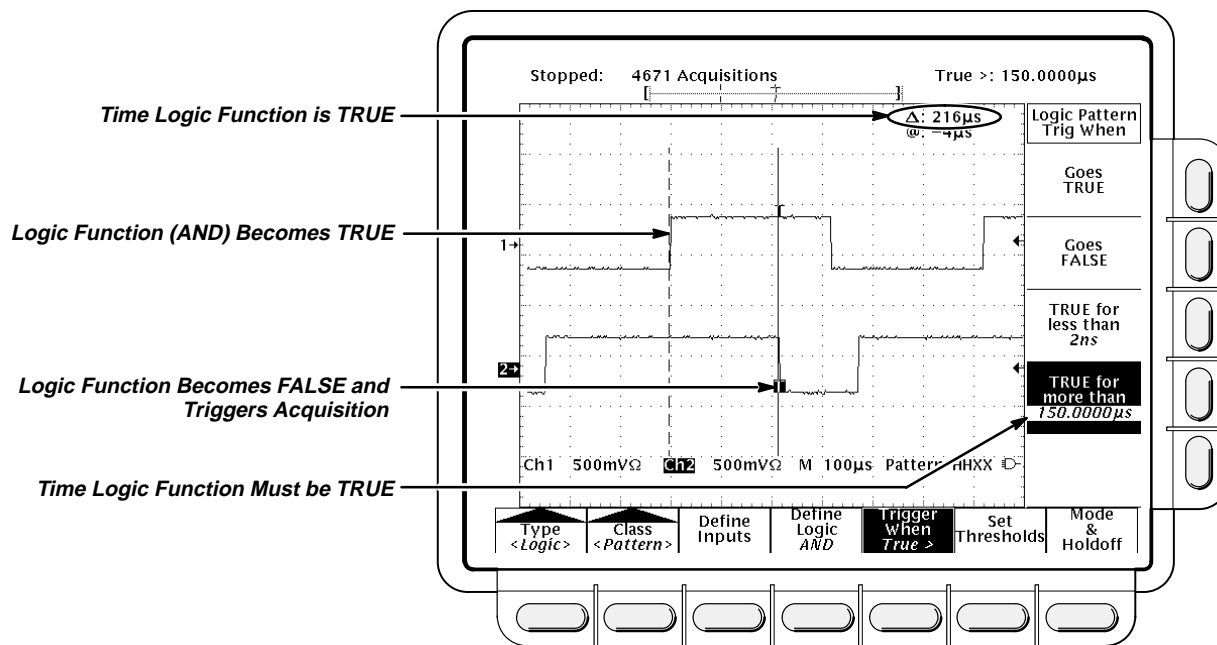

Figure 3-28: Logic Trigger Menu—Time Qualified TRUE
Note the position of the trigger indicator in Figure 3-28. Triggering occurs at the point the specified logic function is determined to be true within the specified time. The oscilloscope determines the trigger point in the following manner:
In Figure 3-28, the delay between the vertical bar cursors is the time the logic function is TRUE. Since this time is more (216 μ s) than that set in the **True for more than** menu item (150 μ s), the oscilloscope issues the trigger at that point, not at the point at which it has been true for 216 μ s.